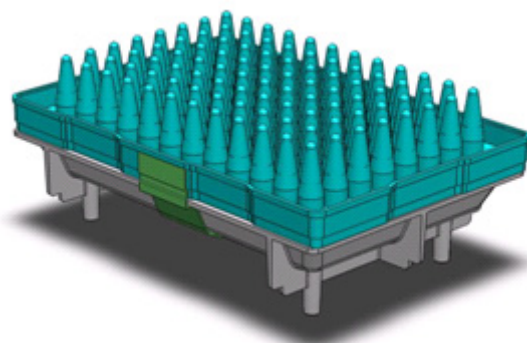

Figure 18 The inverted plate assembly.
2. Seal the pieces together with tape on all four sides. Immediately prior to centrifugation, flip the entire apparatus so that the 96-well plate is upside-down over the collection tray (see Figure 18).